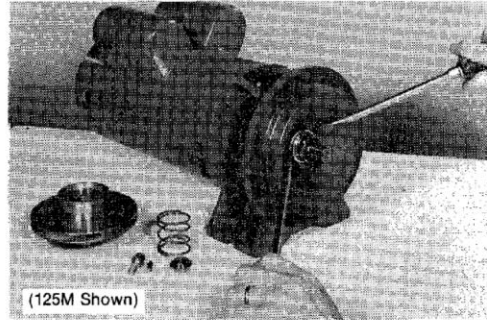

FIG. 3
- Using two screwdrivers, pry out rotating assembly of shaft seal. (Fig. 3)